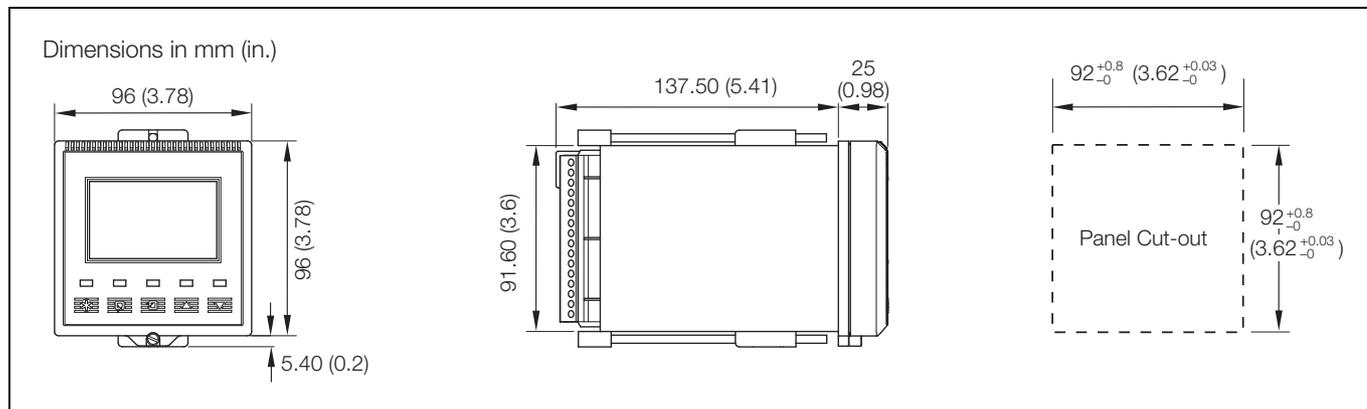

Fig. 6.4 Overall Dimensions
6.2.2 Panel-mount Analyzers – Figs. 6.4 and 6.5